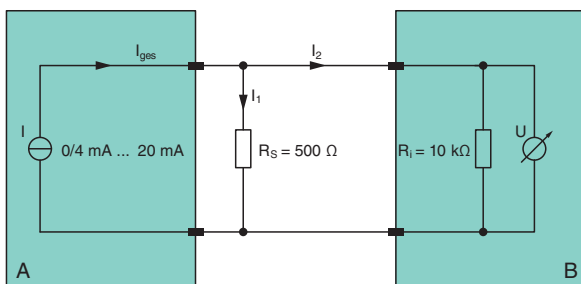

Figure 53 Current/voltage conversion with a measurement resistor
the measured current can be converted into a measured voltage. This is possible in principle; however, it leads to transfer errors that have to be corrected by re-scaling the control (B). The problem lies in the input resistor of the voltage input. The current is divided into 2 partial currents I_1 and I_2 . Figure 53 shows the pattern with an input resistance of 10 k Ω . The signal current of 20 mA is not converted to 10 V, but simply to about 9.5 V. Rescaling is required in the control (B).